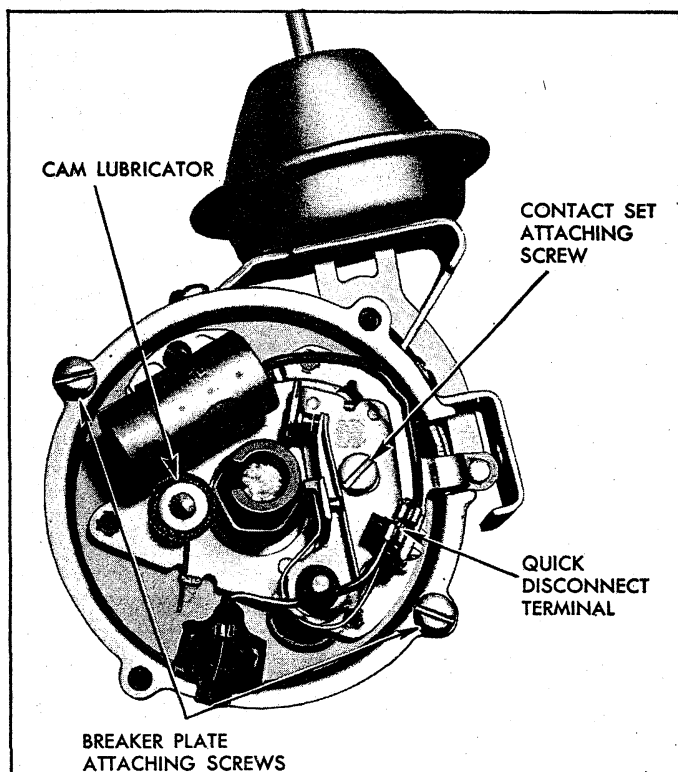

Fig. 4i—Breaker Plate and Attaching Parts
3. Pull primary and condenser lead wires from contact point quick disconnect terminal (fig. 4i).
Four and Six Cylinder Engine Distributor (Fig. 4i)